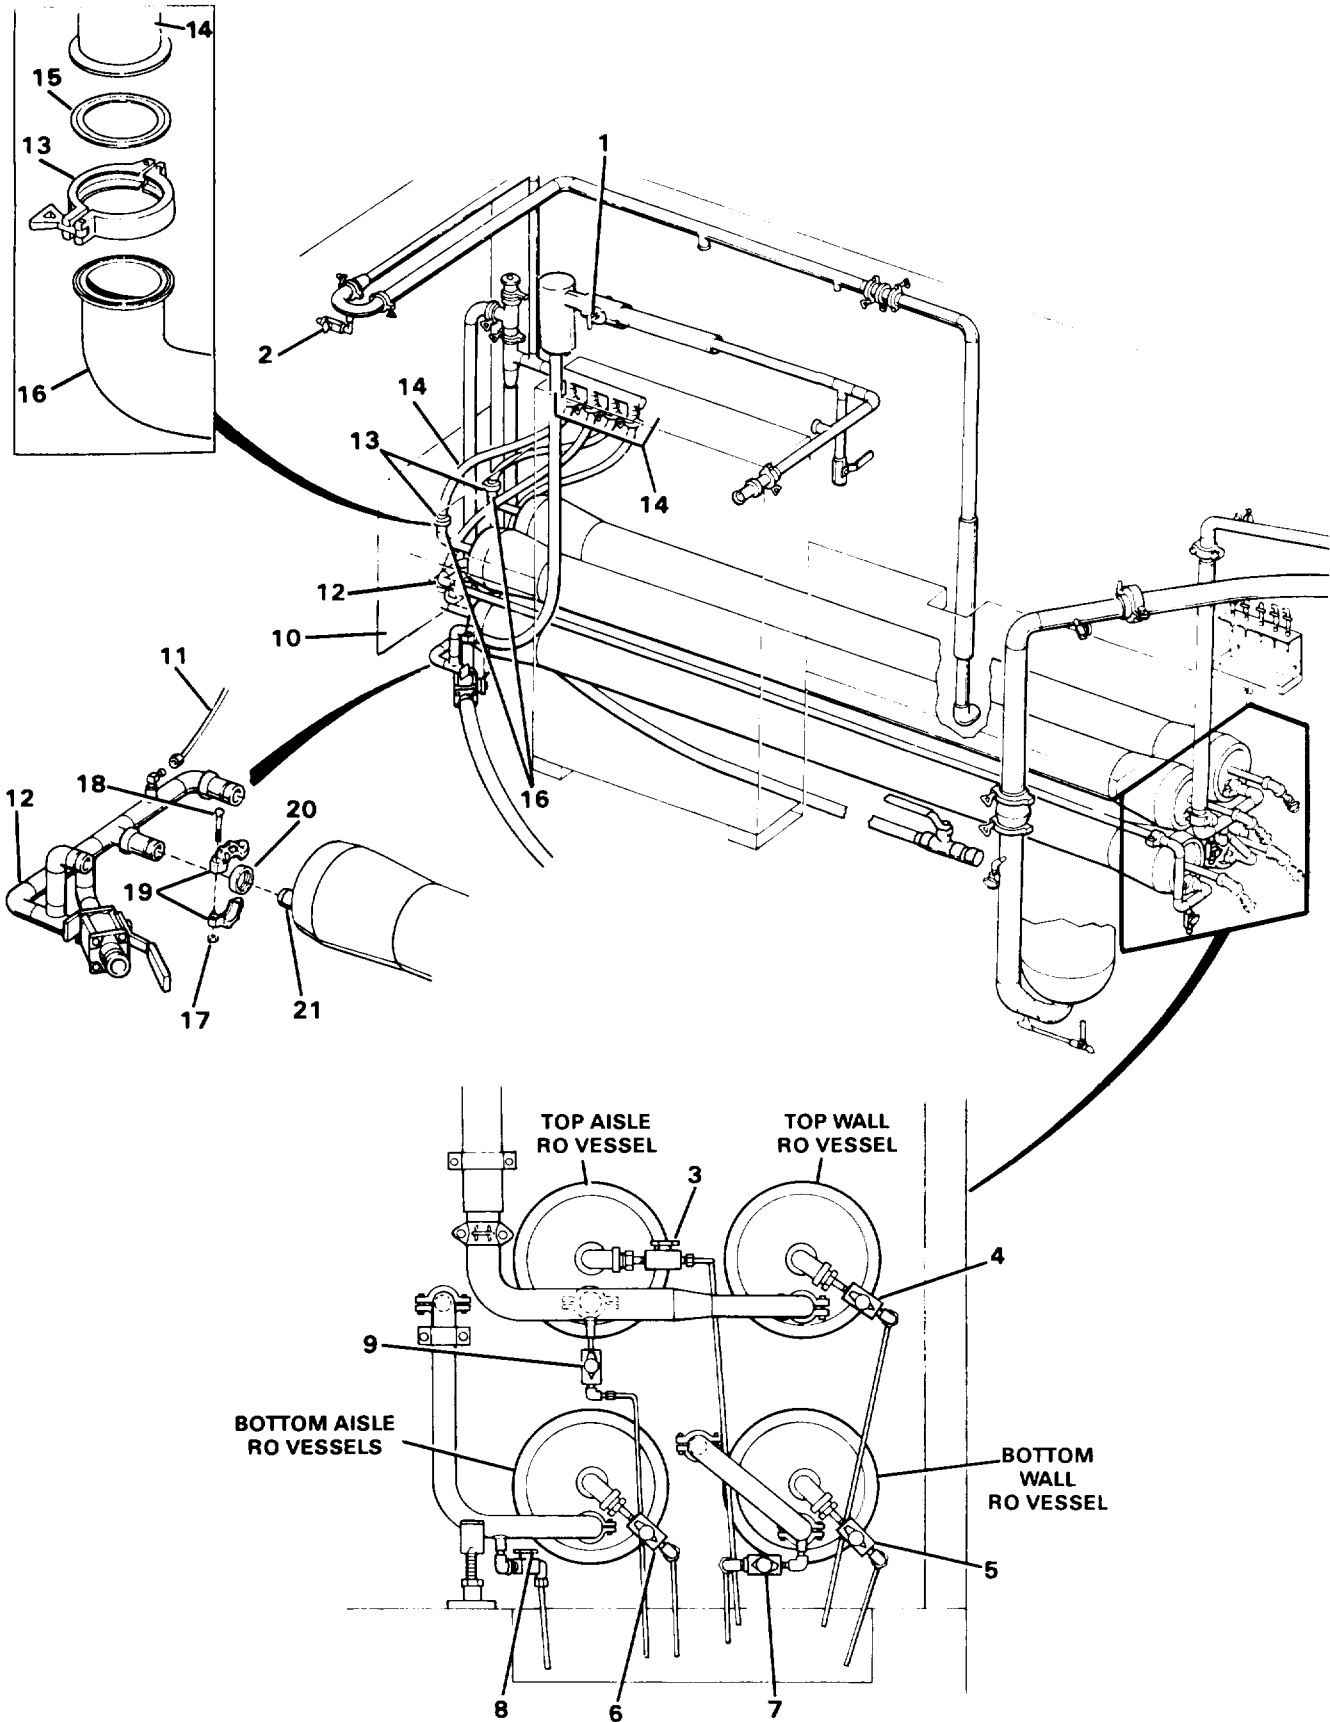
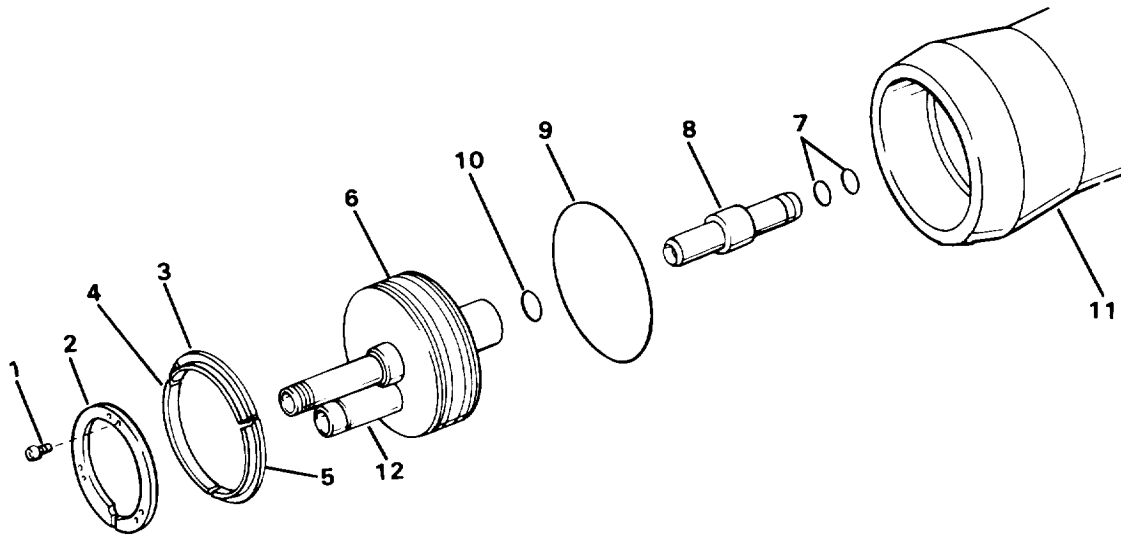

Figure 3-12. Valve and Piping Locations
Figure 3-14. RO Cap Head
Before working on the RO elements, make certain that in-line pressure is relieved and drain valves (3 thru 9, Figure 3-12) are opened to drain the RO vessels and piping. Failure to do so could result in injury or death.
a. Make certain the valves in Figure 3-12 are in the following positions:
- (1) System pressure control valve (1) — open.
- (2) Product vent valve (2) — open.
- (3) Product drain valves (3 thru 6) — open.
- (4) Waste drain valves (7 thru 9) — open.
Tag each of the eight cap head assemblies (6, Figure 3-14) to ensure installation into the same RO vessel from which it is removed.
h. Remove the three plastic screws (1, Figure 3-14) with hex key wrench.
i. Thread each of the three plastic screws (1), into securing ring (2) until finger tight. Alternately turn screws (1) with Allen wrench to remove securing ring (2).
j. Tap cap head assembly (6) gently and evenly with wood block until the locking rings are loose. Remove tapered locking ring section (3) and two square end locking ring sections (4 and 5).
m. Remove seal (9, Figure 3-14) from cap head assembly (6).
n. Remove connector (8).
o. Remove two preformed packings (7) from connector (8).
p. Remove preformed packing (10) from inside diameter of cap head assembly (6).
q. Repeat procedure h thru p for remaining three RO vessels (11).
- b. Lubricate seal (9, Figure 3-14) and preformed packing (10) with glycerin and install on cap head assembly (6). Be careful seal (9) is not twisted.
- c. Install connector (8) into end of cap head assembly.
- d. Lubricate preformed packings (7) and install on connector (8).
- e. Insert cap head assembly into RO vessel (11) with port (12) at 6 o'clock position. Push cap head assembly forward until it bottoms out. DO NOT pull back on cap head assembly.
- h. Install tapered end locking ring section (3). Hold in place.
- i. Place securing ring (2) into RO vessels (11) with notch at 6 o'clock. Unthread screws and place into non-threaded holes.
- j. Fasten securing ring (2) to cap head assembly (6) with plastic screws (1).
- l. Lubricate gasket (20, Figure 3-12) with glycerin. Position gasket (20) on port (21) with top half of clamp (19).
- m. Position piping (12) on port (21).
- n. Place bottom half of clamp (19) over gasket (20) ensuring that clamp fits into groove and secure with two capscrews (18) and nuts (17).